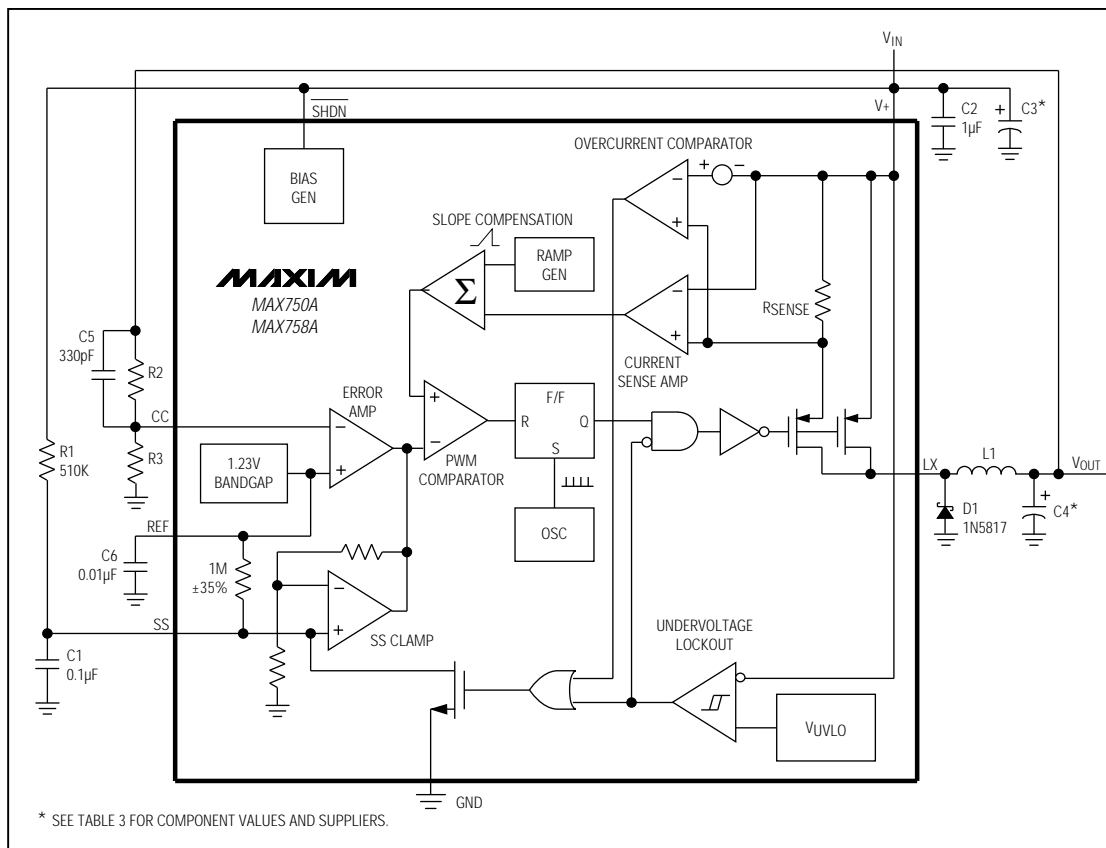

Figure 1. Detailed Block Diagram with External Components
The controller consists of two feedback loops: an inner (current) loop that monitors the switch current via the current-sense resistor and amplifier, and an outer (voltage) loop that monitors the output voltage through the error amplifier (Figure 1). The inner loop performs cycle-by-cycle current limiting, truncating the power-transistor on-time when the switch current reaches a predetermined threshold. This threshold is determined by the outer loop. For example, a sagging output voltage produces an error signal that raises the threshold, allowing the circuit to store and transfer more energy during each cycle.
Figures 1 and 2 show a capacitor and a resistor connected to the soft-start (SS) pin to ensure an orderly power-up. Typical values are 0.1μF and 510kΩ. SS controls both the soft-start timing and the maximum output current that can be delivered while maintaining regulation.